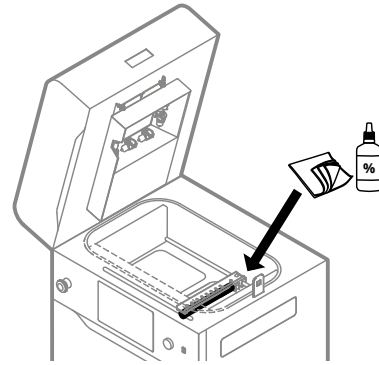

Fig. 13.20 Use cloth and ethyl alcohol to clean the Recoater roller, when it is above the Print Bed.
17. Once again, wipe the Recoater roller with dry cloth to remove the powder (fig. 13.20).
18. Next, wipe the Recoater roller using cloth soaked in ethyl alcohol (fig. 13.20). Press **DONE**.